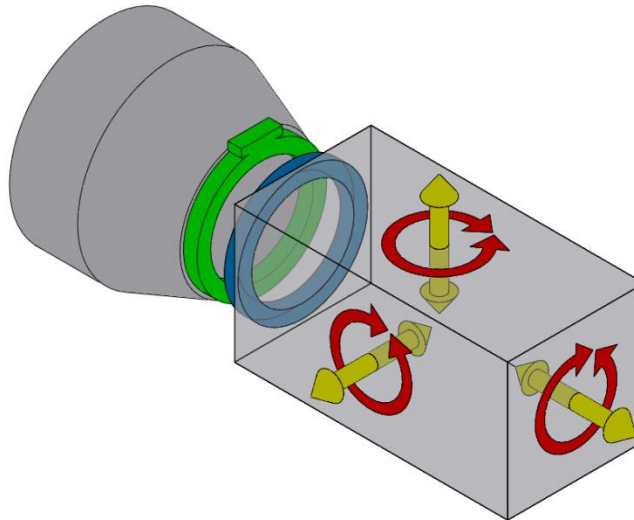

Figure 41: Be cognizant of translational AND rotational alignment AND compliance.
12.1.6	Move the SV close to the LV until the tips of the Separation Springs are close to the bottom edge of the Upper Ring (<0.5 in) but not yet overlapping. Align the Upper Ring to the Lower Ring in translation and rotation. See step 7.1.7 for alignment features. Ensure the springs will not be inhibited from engaging their corresponding holes in the Upper Ring flange. It is essential to align all 6 SV DOF prior to actually compressing the Lightband. See Figure 41.